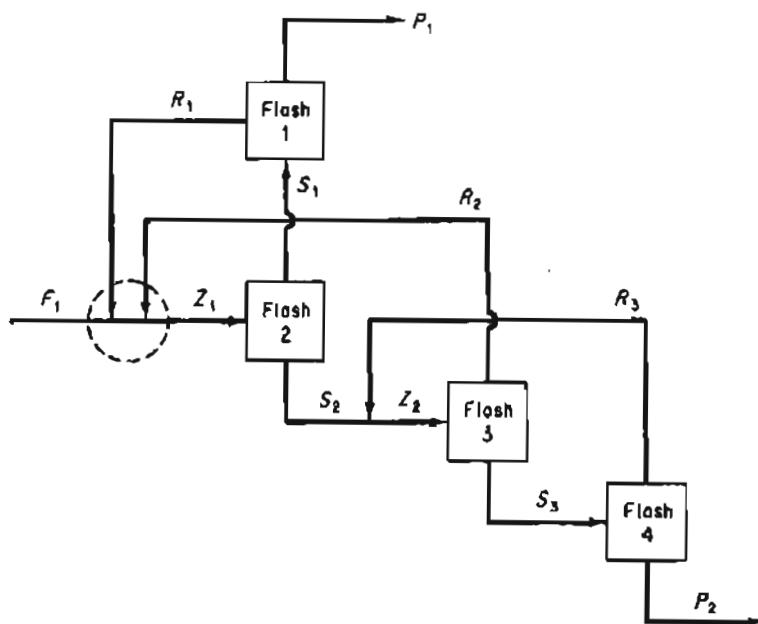

Figure P30.11
30.11 Cavett proposed the following problems as a test problem for computer-aided design. Four flash drums are connected as shown in Figure P30.11. The temperature in each flash drum is specified, and equilibrium is assumed to be independent of composition so that the vapor-liquid equilibrium constants are truly constant. Is the problem properly specified, or do additional variables have to be given? If the latter, what should they be? The feed is as follows